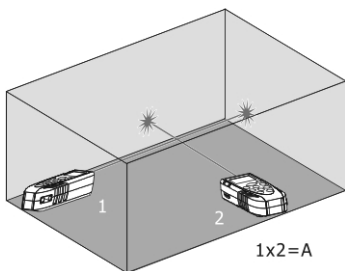

Fig. 5: Example of area measurement
3. Press the key to perform the first measurement (length) of the surface concerned (see Fig. 5). The corresponding value appears on the first partial display. The symbol " " appears on the display with side "2" flashing
4. Press the key again to perform the second measurement (width) of the surface concerned (see Fig. 5). The corresponding value appears on the second partial display, while the (up-to-date) total value of the area appears on the resulting display